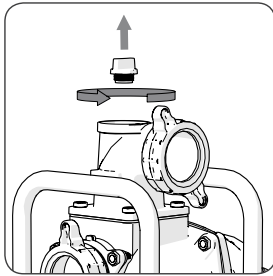

Fig 4
- Remove the filler plug from the top of the pump. (**Fig. 4**)